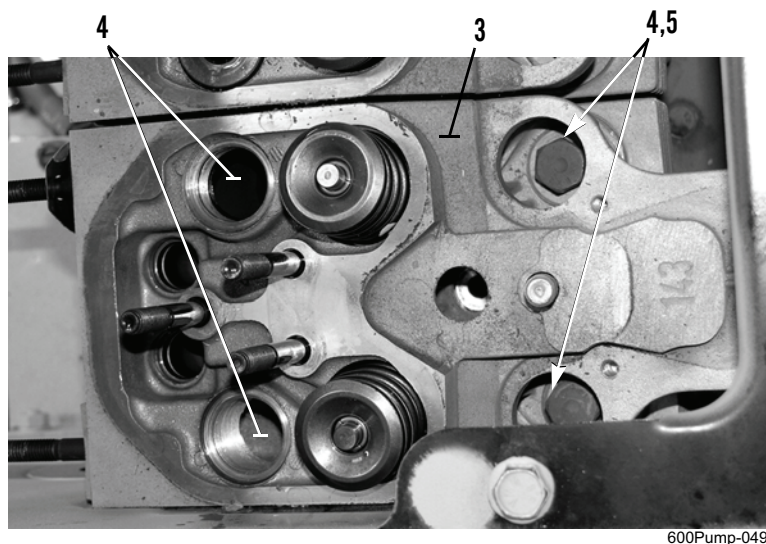
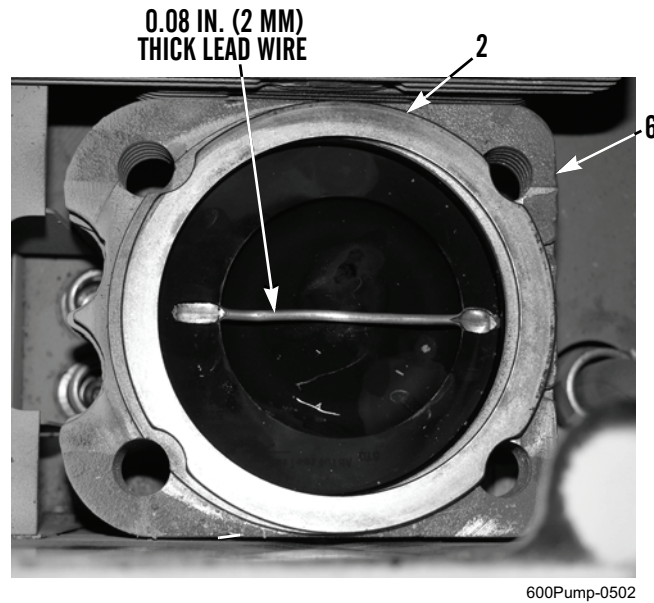

Figure 3. Installing Cylinder Head Bolts and Washers.
Figure 4. Removing Cylinder Head Gasket and Lead Wire.
3. Install cylinder head (Figure 3, Item 3), four cylinder head bolts (Figure 3, Item 4), and two washers (Figure 3, Item 5) on cylinder (Figure 4, Item 6). Tighten bolts in a crosswise pattern to 30 lb-ft (40 Nm). Then tighten an additional 45 degrees (1/8 turn).
5. Remove four bolts (Figure 3, Item 4), two washers (Figure 3, Item 5), cylinder head (Figure 3, Item 3), lead wire, and cylinder head gasket (Figure 4, Item 2) from cylinder (Figure 4, Item 6).
7. If piston crown clearance is not IAW specification, notify Sustainment Maintenance to replace spacer (shim) between cylinder (Figure 4, Item 6) and engine block.